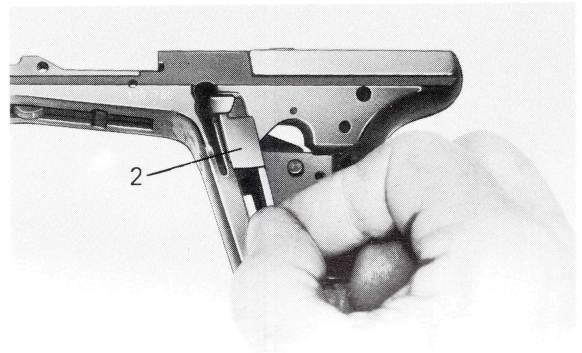

Fig. 29
- Insert the catch (2) into the receiver (1) and push it up through its full travel (Fig. 29).